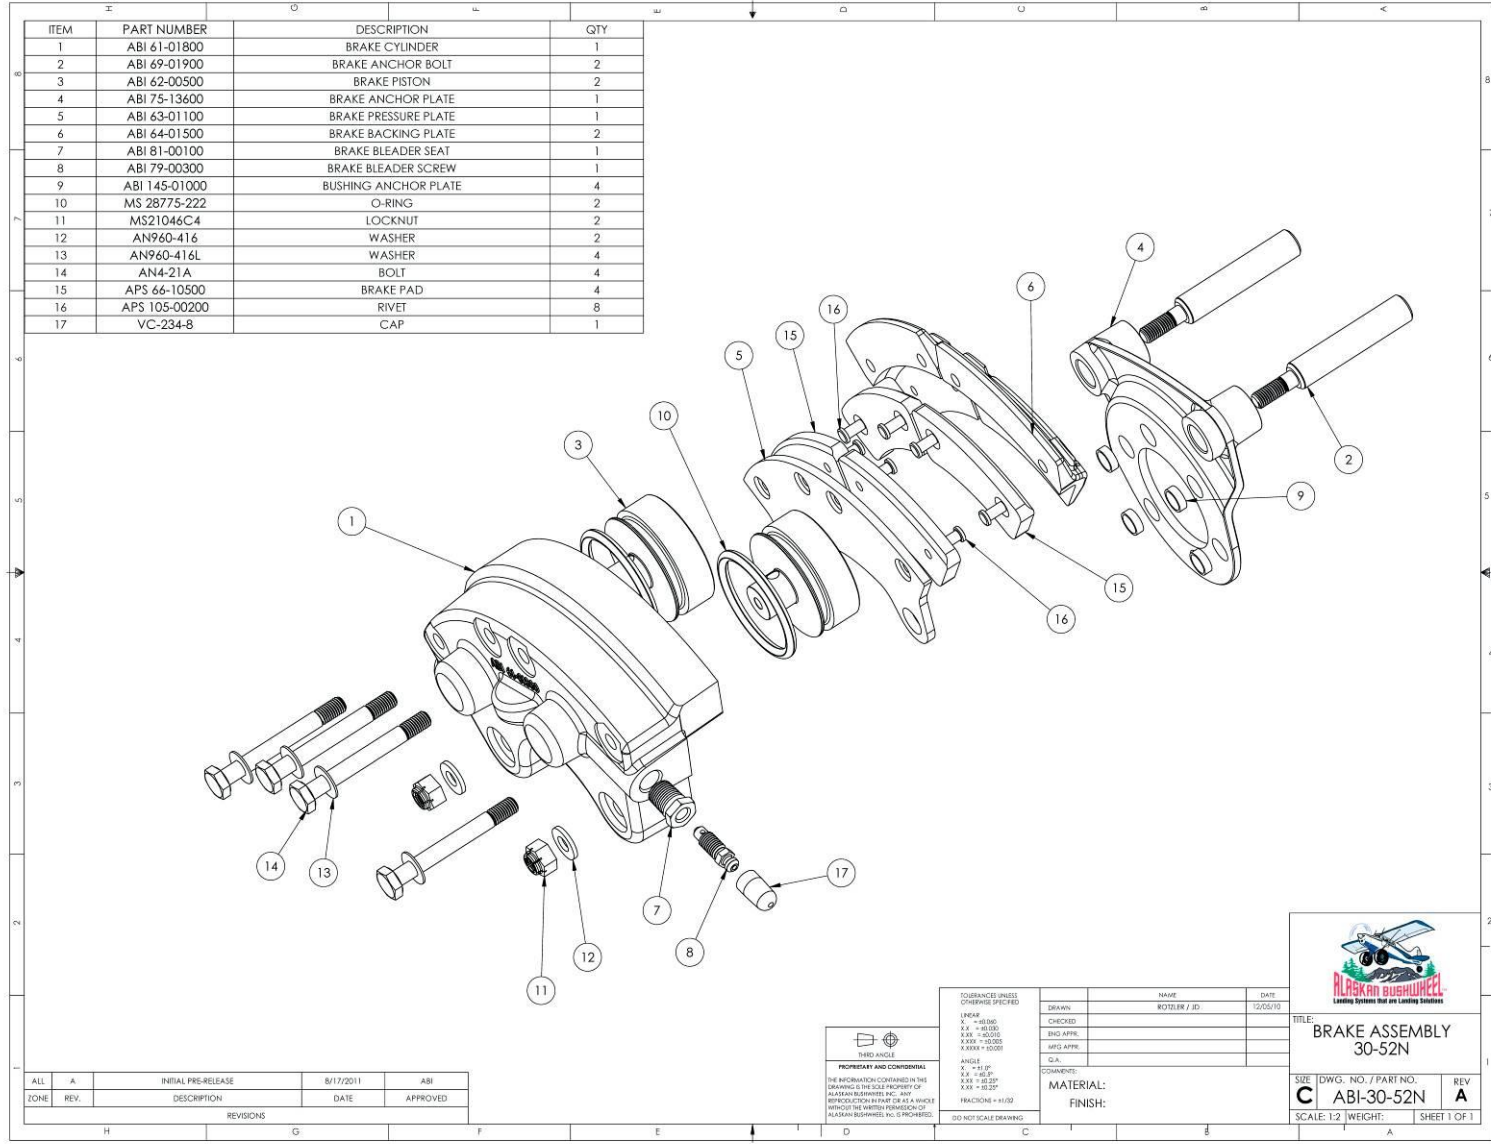

Figure 3: ABI-30-52N Brake Assembly
- 6.2.2 Remove brake backing plates. (See Figure 3: ABI-30-52N Brake Assembly, page 20)